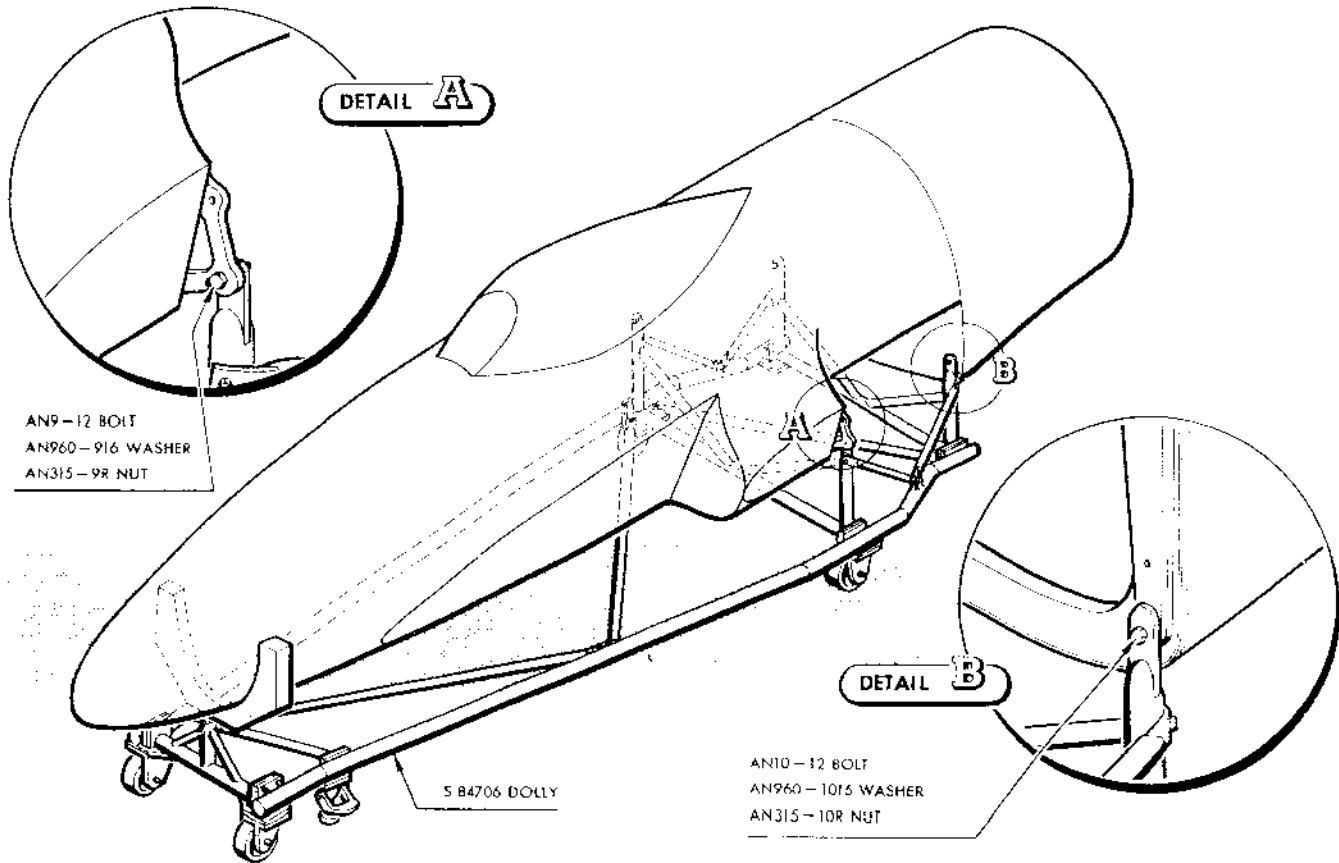

Figure 15 — Storage Dolly for P-80A Fuselage Nose and Mid Section
(3) FUSELAGE NOSE AND MID SECTION. (See figure 15.)—A dolly, No. S-84706, should be used to support the fuselage nose and mid sections of the fighter airplane for major overhaul, handling, or storage. The aft end of the dolly provides four supports, two for attachment to the forward wing-to-fuselage fittings, and two for attachment to the aft wing-to-fuselage fittings. The forward end of the dolly provides a padded cradle to support the fuselage nose section. Floor locks are provided on the under carriage to hold the dolly in place. A dolly suitable for the photographic airplane will be indicated at a later date.